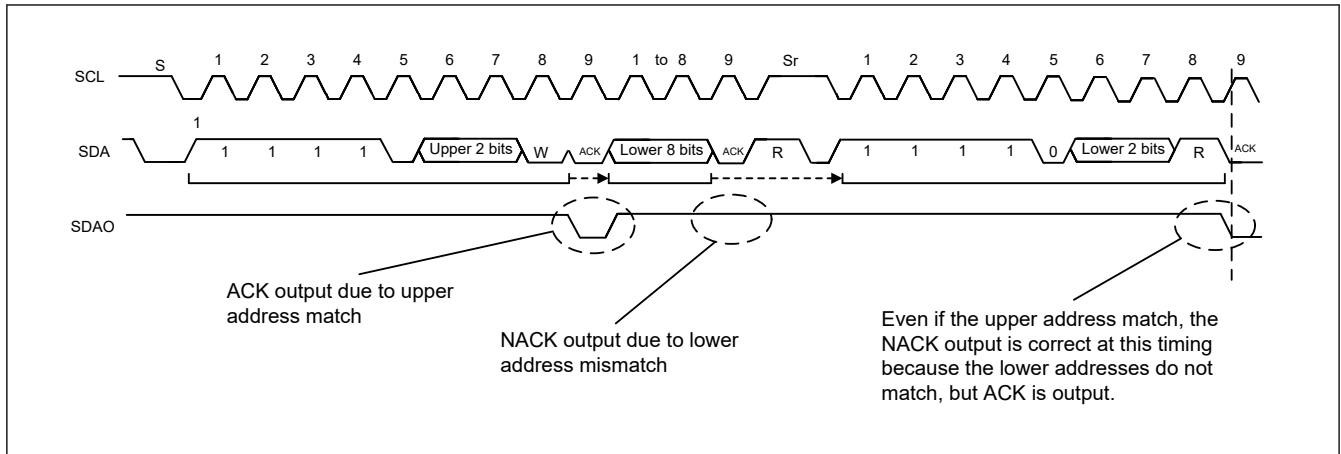

Figure 25.31 Slave transmission (10-bit address format)
- Workaround : Set the upper 2 bits of the 10-bit address assigned to this module to a value different from other slaves. If the address is exhausted and cannot be set to a different value, apply restriction (1).
- Restriction (1) : 10-bit address not available.
- Restriction (2) : After the final ACK response in Figure 25.31, none of the slaves respond to data, so the SDA keeps the high level and the I²C master receives the 0xFF data. In a system that can handle 0xFF as abnormal data, 0xFF is read and discarded on the I²C master side. If 0xFF is valid data, apply restriction (1).